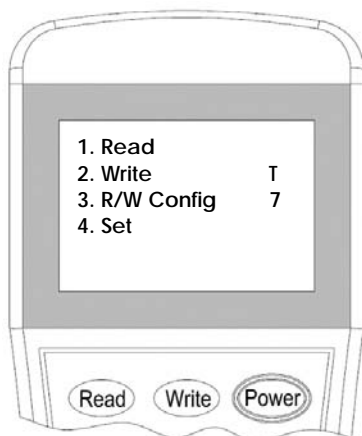

Figure 8
2. Switch-on the programmer, then press button "**3**" to enter to **Configuration mode** (Figure 8).